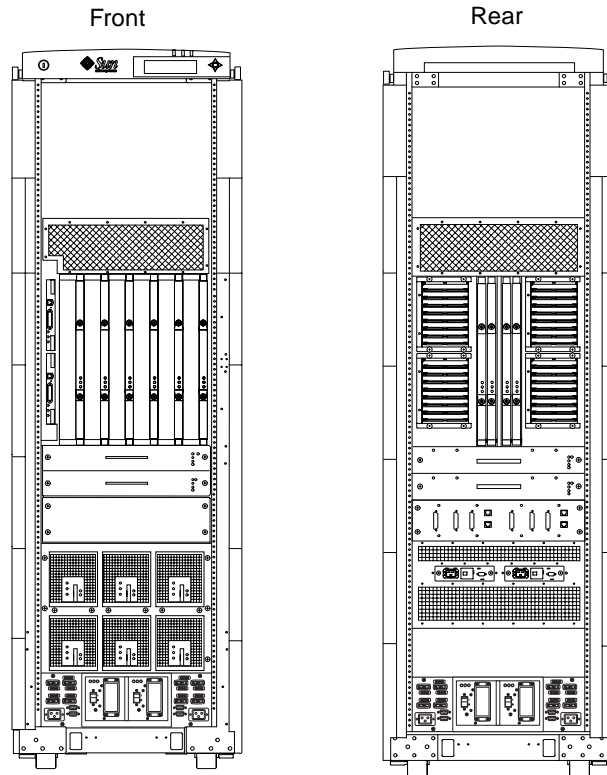

FIGURE 2-1 Sun Fire E6900 System
- FIGURE 2-1 Sun Fire E6900 System 2-2